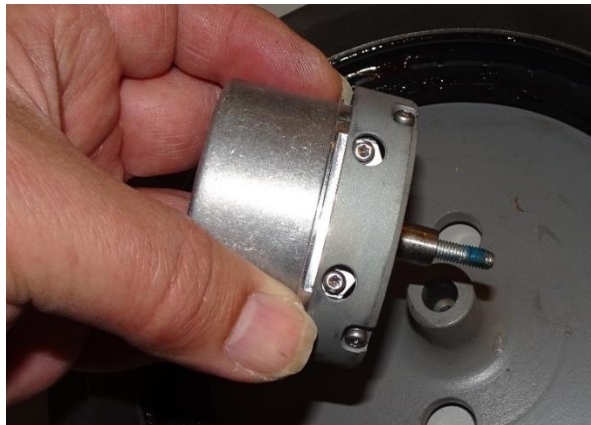

Figure 27
14. Remove both bolts and the encoder, Figure 27.